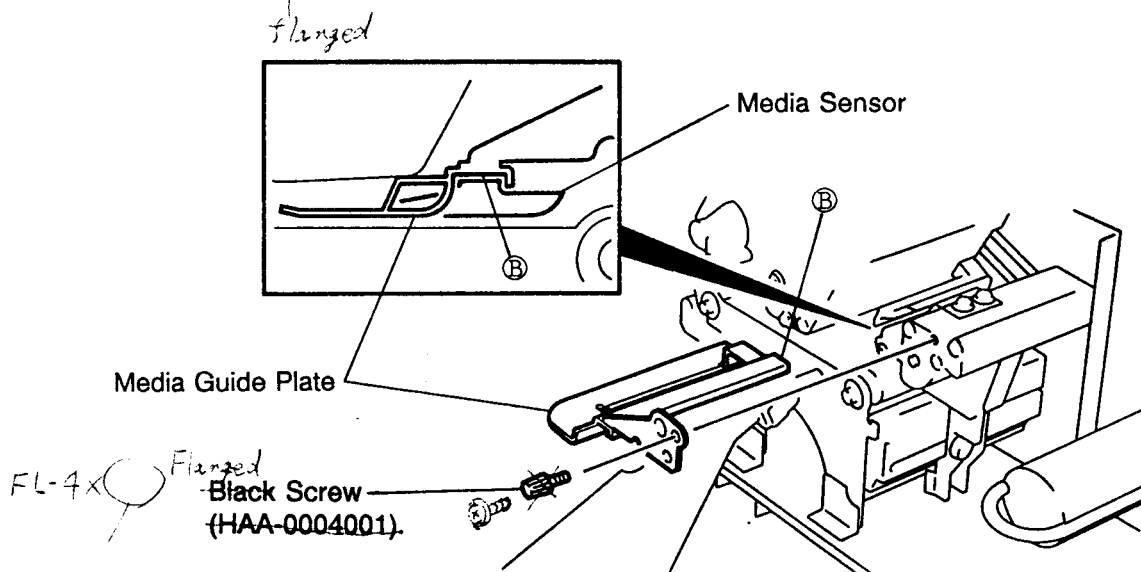

Fig. 10-2
3. Turn the head lever to position ③, then release the ribbon shaft holder plate.
4. Remove the black screw to detach the media guide plate. (See Fig. 10-2.)
8. Place the portion ⑧ of the media guide plate on the media sensor. Secure the media guide plate with the black screw.